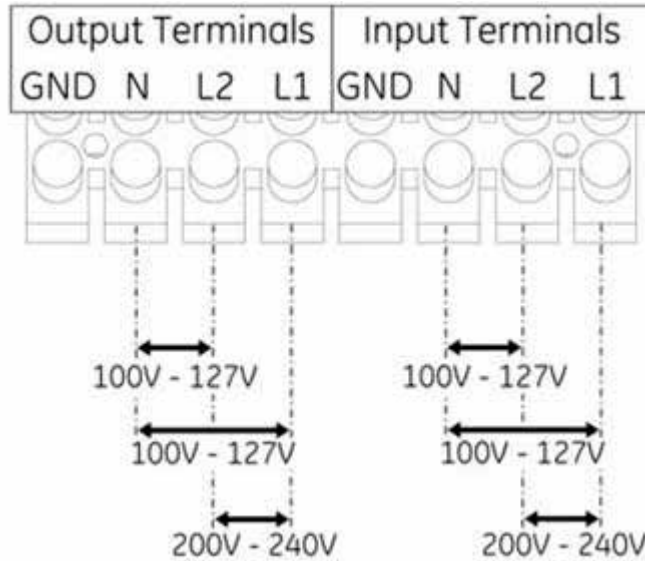
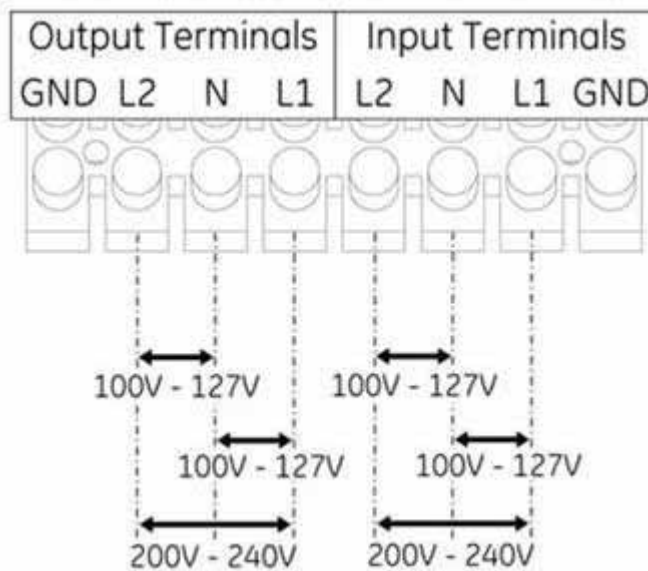

FIG 33 – HARDWIRE WIRE CONNECTIONS 6KVA UPS
FIG 34 – HARDWIRE WIRE CONNECTIONS 10KVA UPS
4. **Input:** connect the input utility wires to the terminals L1-L2 (Line) and N (Neutral) and the ground wire to GRD. *Ground connection is essential!* (see FIG 33 or FIG 34).
5. **Output:** connect the load wires to the terminals L1-L2 (Line) and N (Neutral) and the ground wire to GRD. *Ground connection is essential!* (see FIG 33 or FIG 34).